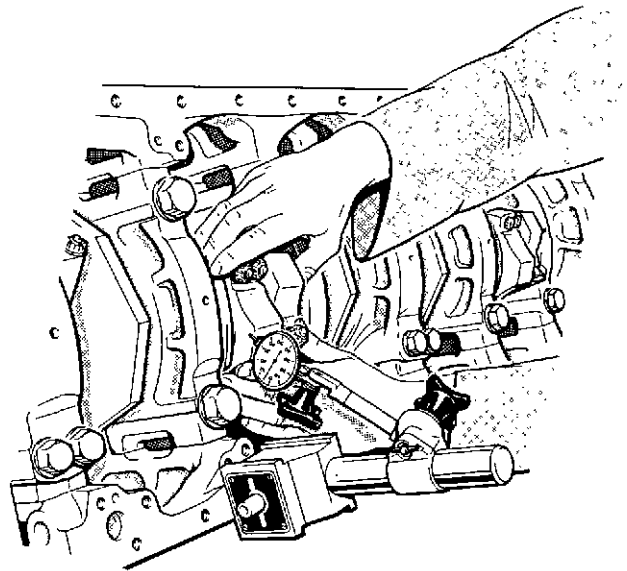

Fig. 11 Checking big end float
- 25 Check the connecting rod end float with a D.T.I., as shown in figure 11. The clearance for each pair of connecting rod big ends, between their associated crank webs, must be 0,10 mm to 0,30 mm (0.004 to 0.012 inch).